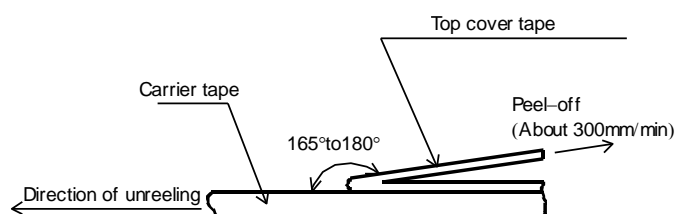

Figure-4
- 5). The peel strength of the top cover tape shall be within 0.1N to 0.5N on the test method as shown in the following Figure-4.